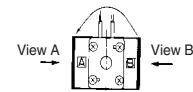

Fig. 5
- Interchange piston cover gasket (5) and end cover gasket (6). (Fig. 5)